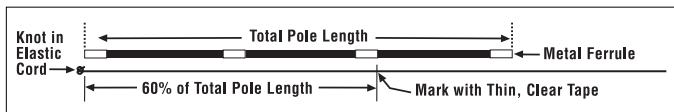

FIG. 2
4. Mark the location that is approx. 60% of the total length of the fiber glass pole on the elastic cord with a thin piece of tape, measuring from the double overhand knot, measuring from the double overhand knot. For example, if the total length of the fiberglass pole is 5 feet, then 60% of 5 feet is 3 feet. You will measure the elastic cord for 3 feet and mark the location with a thin piece of tape (Fig. 2).